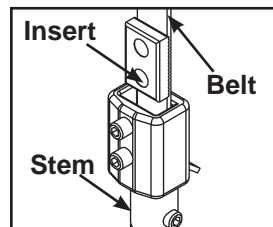
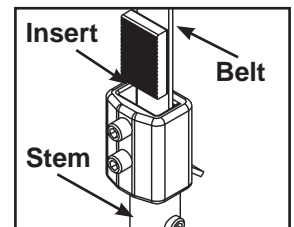

Figure 4A
Figure 4B
- D. Verify belt and insert are installed properly, as shown in Figure 4A. **NOTE:** Do not install the insert backwards as shown in Figure 4B.